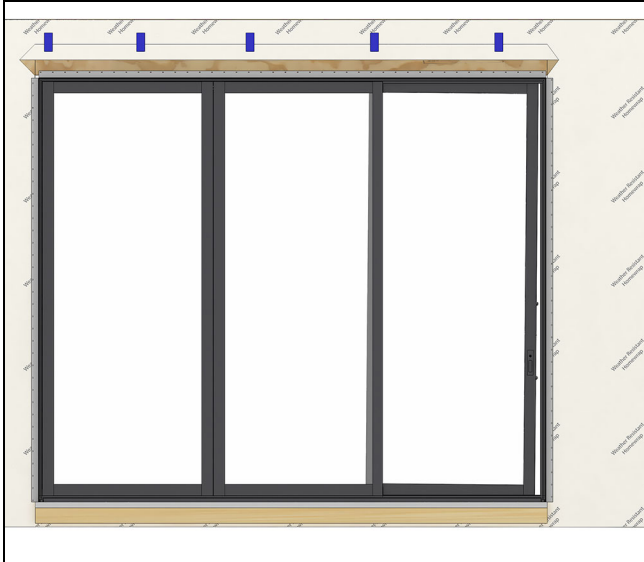

Figure 137
1. Move the operator panel toward the locking jamb until there is a slight gap. Check for an even reveal/gap between the panel and the jamb. See Figure 137.